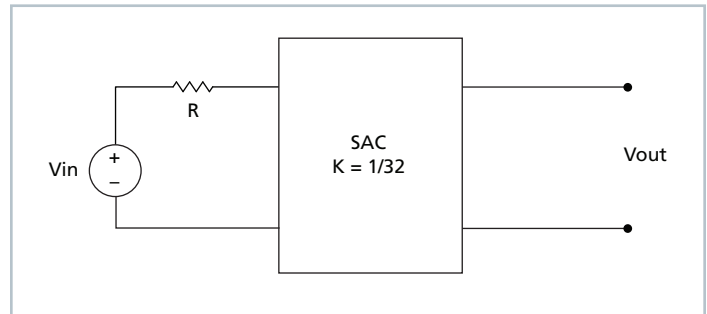

Figure 2 — K = 1/32 Sine Amplitude Converter™ with series input resistor
The use of DC voltage transformation provides additional interesting attributes. Assuming for the moment that R_{OUT} = 0 Ω and I_q = 0 A, Eq. (3) now becomes Eq. (1) and is essentially load independent. A resistor R is now placed in series with V_{IN} as shown in Figure 2.
Assuming that R = 1 Ω, the effective R as seen from the secondary side is 0.98 mΩ, with K = 1/32 as shown in Figure 2.